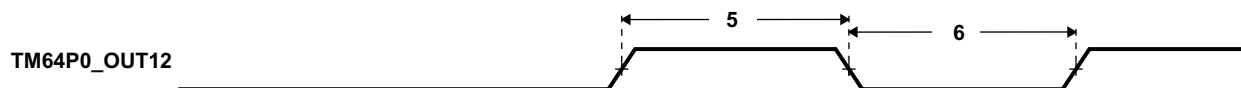

**Figure 5-82. Timer Timing**
**Table 5-133. Timing Requirements for Timer Input(1) (2) (see Figure 5-82)**